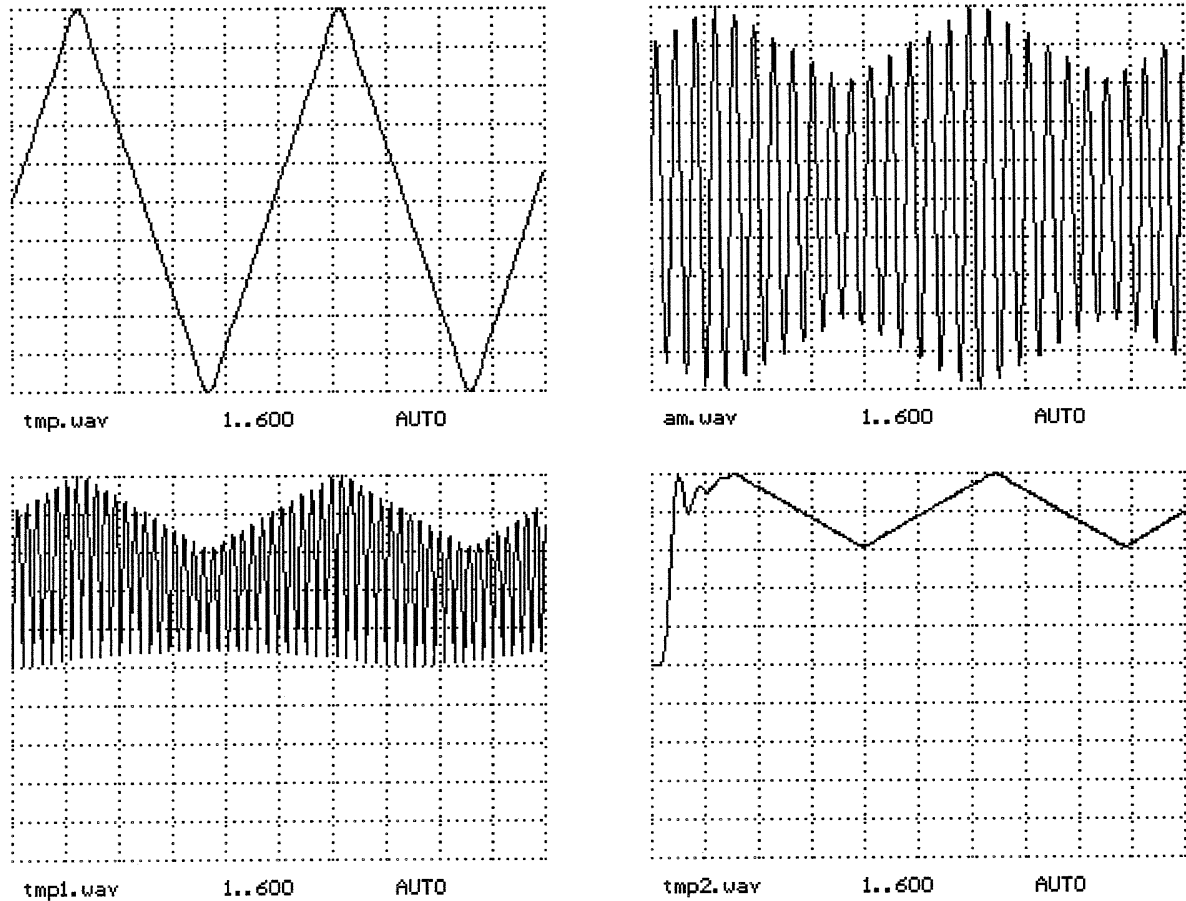

Figure 46. Amplitude-modulated and -demodulated signals.
Amplitude modulated (AM) signals are most conveniently demodulated when their envelope is constructed, which is done by rectification of the signal and its subsequent filtering in a low-pass section — see **Figure 45**. For the demodulation of the AM signal introduced in Part 5, we use experiment file XDEM03.SPP. The result is shown in **Figure 46**. The low-pass filtering is necessary to suppress any unwanted spectral components of the signal.